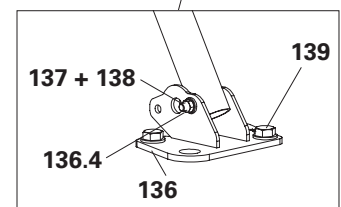

Fig. A15.04c
4. Fit the inner tube (**135.2**) onto the rear hole (**136.4**) of the base plate by means of bolts (**137**) and nuts (**138**). (Fig. A15.04c)